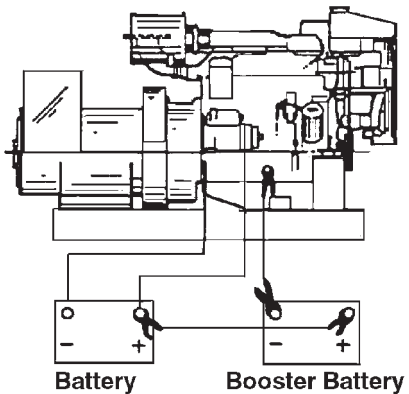

Figure 27: Booster Battery Connections
4. Then, connect negative (-) terminal of booster battery to ground on the engine block (see Figure 27).